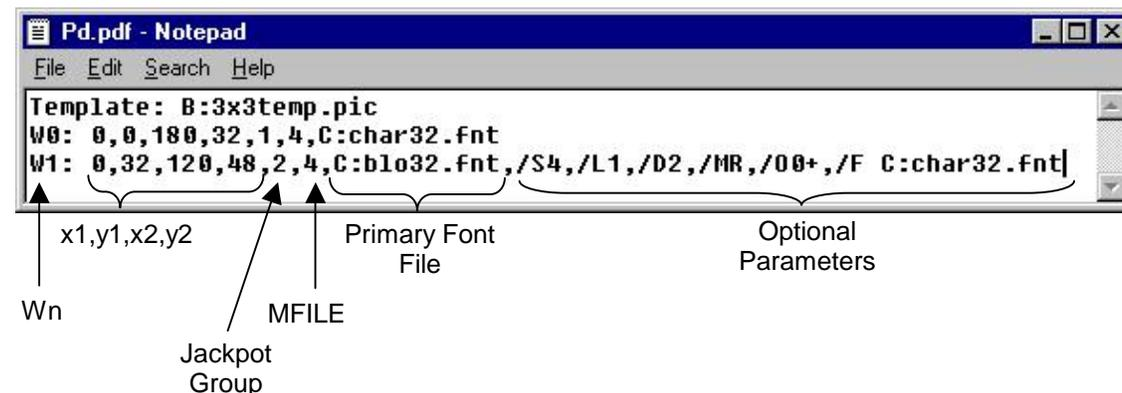

Figure 6.2 **Example of a .pdf file**
The progressive application (.pdf file) is an ASCII file that contains Template commands and all the details about the windows that make up the display, including the window locations and sizes, and the message files for each window. Figure 6.2 shows a .pdf file.
- **x1,y1,x2,y2** are the window coordinates (in pixels). The coordinates (x1, y1) are the top left corner of the window, while (x2,y2) are the coordinates for lower right corner. In Figure 6.2, W0 has the x1,y1 coordinates of (0,0) and the x2,y2 coordinates of (180,32).
- A machine can have up to eight jackpot groups. **Jackpot group** represents the particular jackpot group information that will display in that window. For example, in Figure 6.2, Jackpot Group 1 information will display in W0 and Jackpot Group 2 in W1. You can also use *\** or *?* instead of the jackpot group number, which tells the SUPREME to use the jackpot group defined using the SUPREME logic board switches. Refer to Section 5 to set the jackpot group using the SUPREME switches.